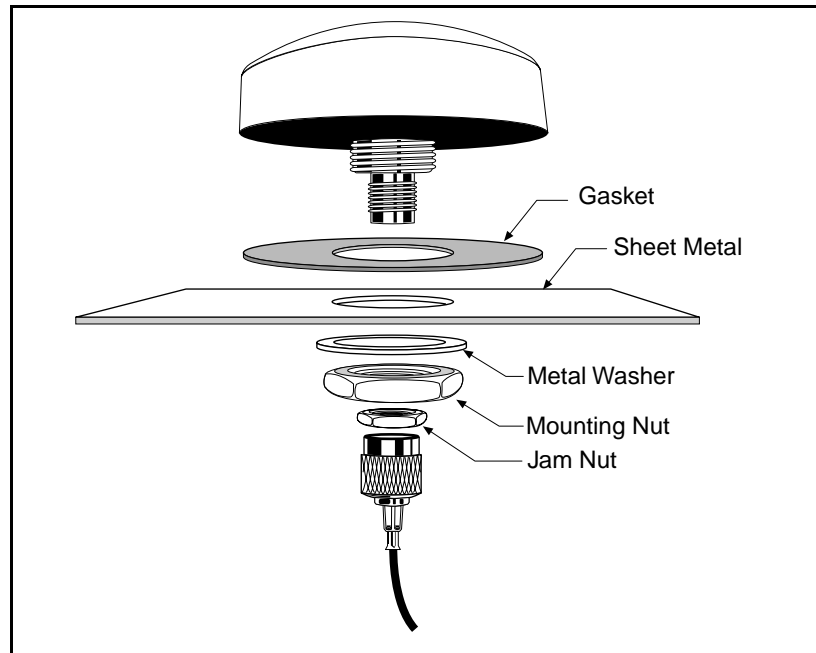

Figure 2.10 Miniature Bulkhead GPS Antenna without Flange
Figure 2.10 illustrates the antenna without the flange. For more information, see Appendix A.
4. Mount the gasket as shown in Figure 2.10.
6. Connect the antenna cable as shown in Figure 2.10.